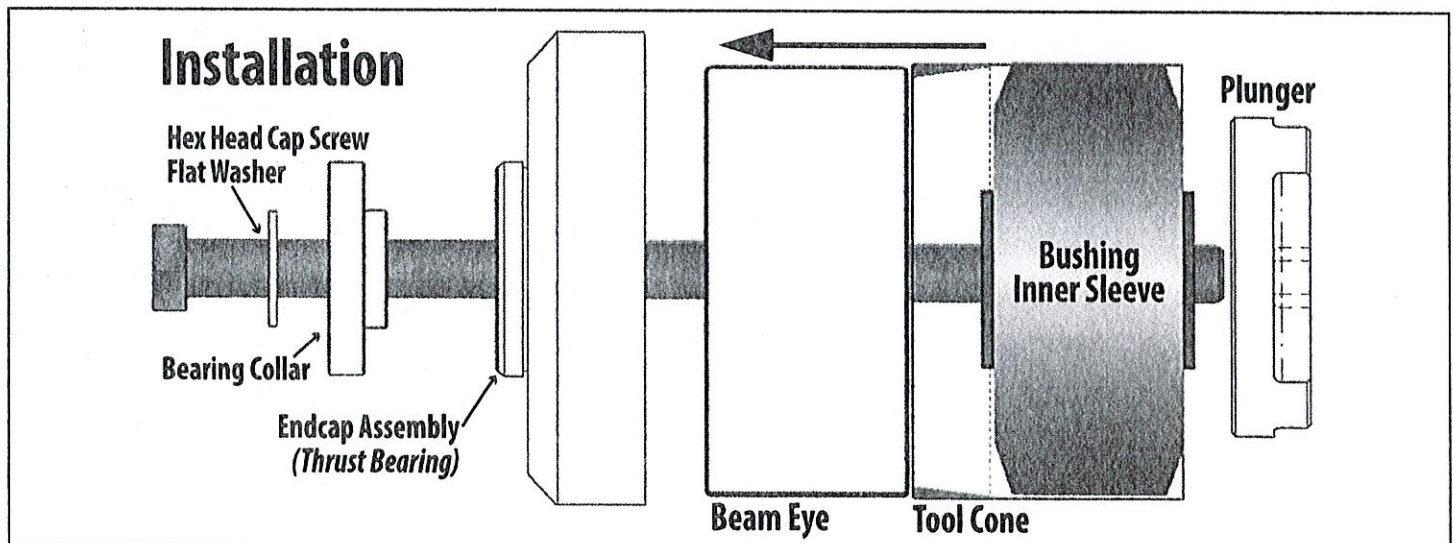

Figure 8. Place the tapered end of the cone against the beam eye for bushing installation and removal.
2. Liberally apply P80[®] lubricant or a soap solution to the inside of the beam eye, the outside of the new bushing and inside the tool cone. Insert replacement bushing into the larger opening of the tool cone (Figure 8).